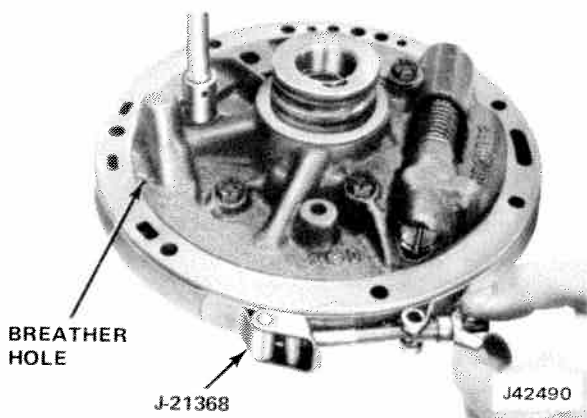

Fig. 7-60 Alignment of Oil Pump Cover to Body
(10) Place pump Aligning Strap J-21368 over pump body and cover, and tighten tool (fig. 7-60). Tighten the pump cover bolts 15 to 20 foot-pounds torque.
(11) Remove Aligning Strap J-21368.
(12) Install pump-to-transmission case O-ring oil seal in pump assembly, with chamfer outward.